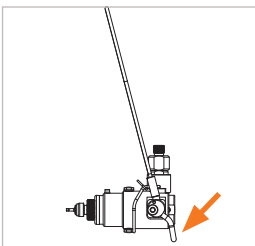

Figure 8
- ▶ Fold the bail actuation (pos. 6) downwards. The flexible wire rope will fold upwards and the clamping jaws will close together (*Figure 8*).